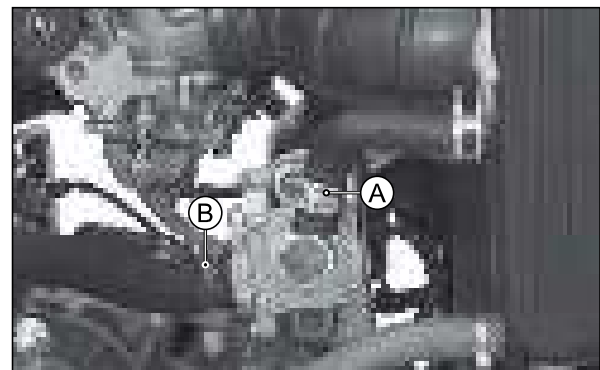

Fig. 4.48
- Dislocate the hose clip (A) from hose air inlet and disconnect the hose from secondary air injection valve. (Fig. 4.48)
- Similarly, dislocate the hose clip (B) from hose air outlet and disconnect the hose from secondary air injection valve. (Fig. 4.48)